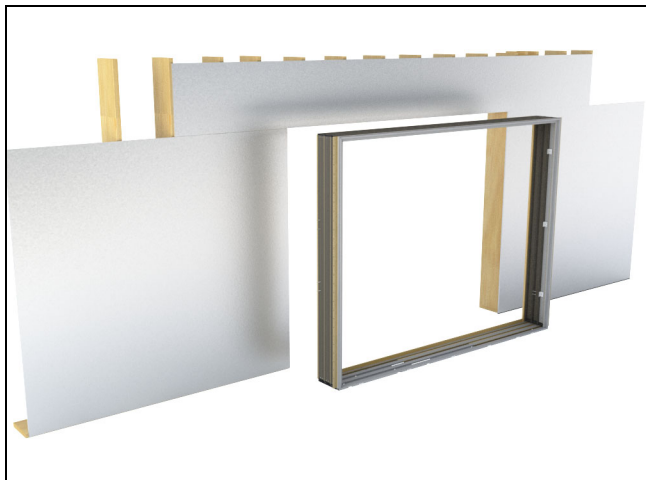

Figure 43
1. Stand frame upright in front of rough opening. See figure 43.